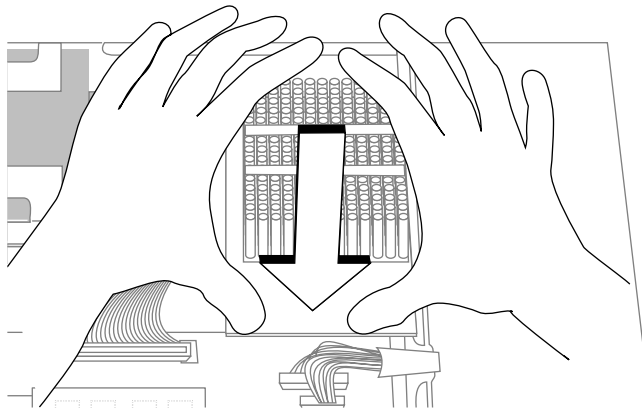

Figure 25 Installing the CPU module
4. Install the replacement CPU module, as shown in Figure 25. Note that the Indy workstation supports several CPU module shapes. Your CPU module and heat sink may look different than the one shown below.